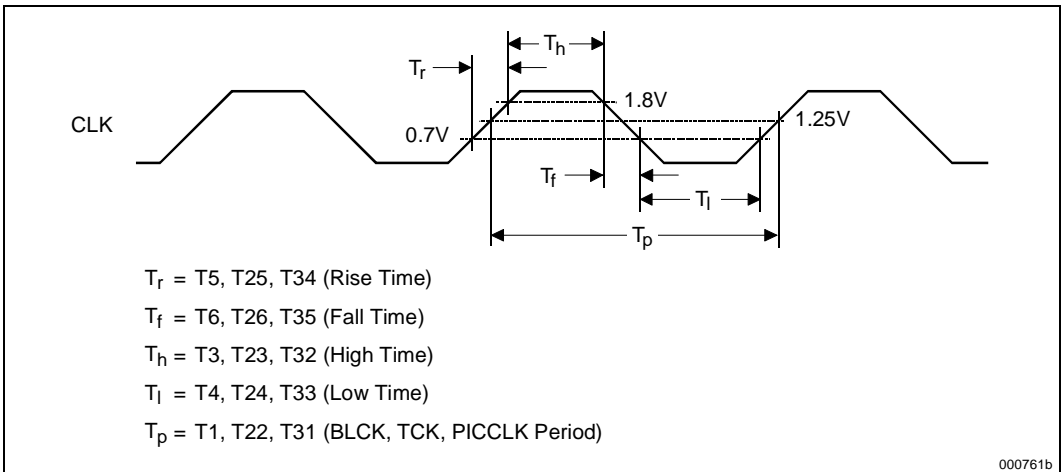
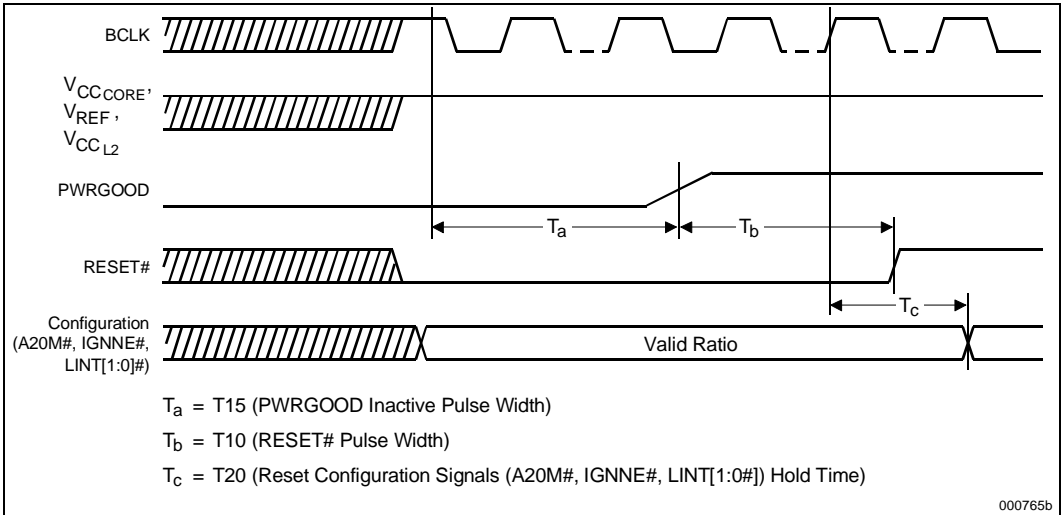
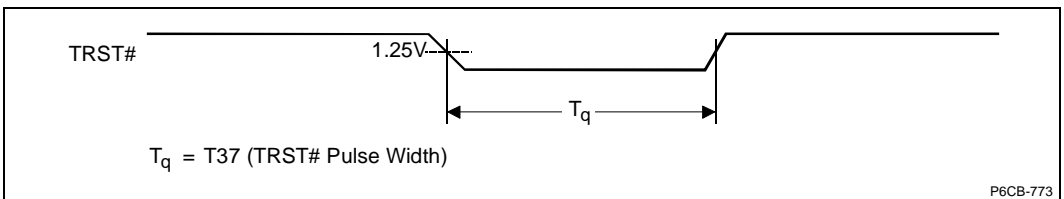

Figure 7. BCLK, TCK, PICCLK Generic Clock Waveform
Figure 12. Power-On Reset and Configuration Timings
Figure 14. Test Reset Timings
NOTES FOR FIGURE 7 THROUGH FIGURE 14
1. Figure 7 through Figure 12 are to be used in conjunction with Table 8 through Table 16.